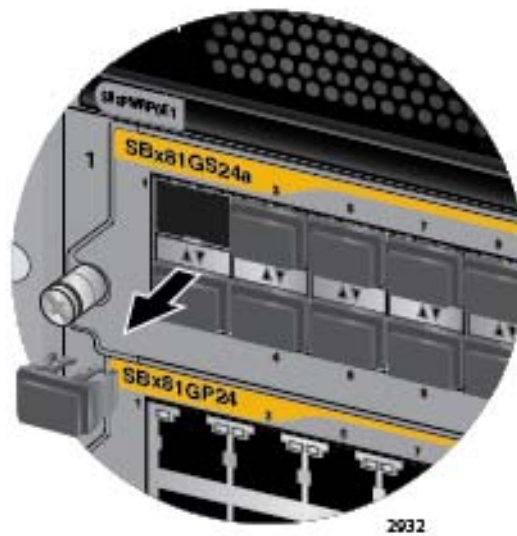

Figure 77. Removing the Dust Cover from an SFP Slot in the AT-SBx81GS24a Line Card
2. Remove the dust cover from the SFP slot chosen for the transceiver. Figure 77 shows the dust cover being removed from slot 1..